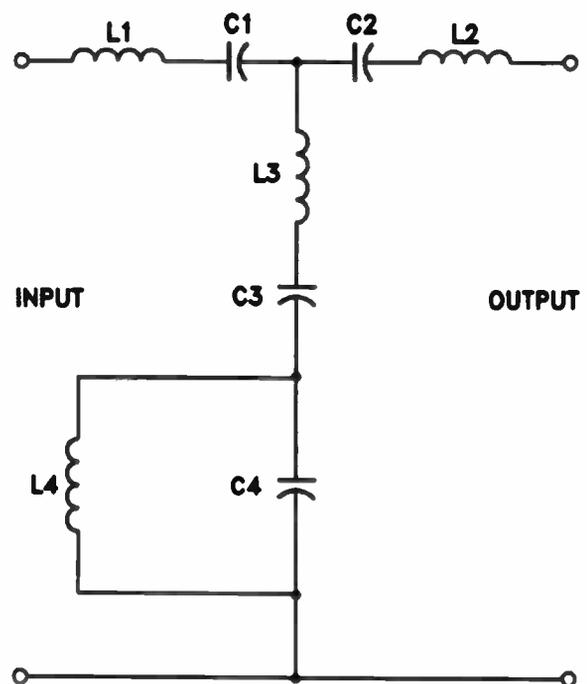

Figure 19. A band-pass filter.
**Band-Pass Filters.** Figure 19 is a diagram of a band-pass filter. This type of filter is designed to pass a band of frequencies. Suppose, for example, we want to pass a band of frequencies between 9 and 11 megahertz (MHz). This filter would be designed to pass frequencies within this band with little or no attenuation and to attenuate signals below 9 MHz and above 11 megahertz.